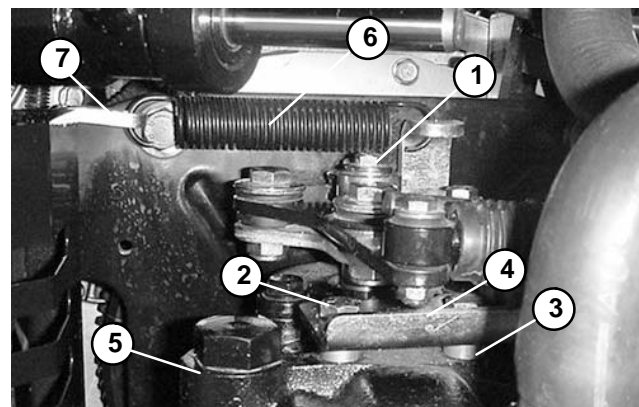

Figure 28
B. Remove cap screw and flat washer securing pump lever and plate to the trunnion shaft (Fig. 28).
C. Remove cap screws and spacers securing the cable support bracket to the pump (Fig. 28).
D. Disconnect extension spring from the spring bracket. Remove traction control mechanism from the pump as a complete unit (Fig. 28).
C. Connect extension spring to the spring bracket while installing traction control mechanism from the pump as a complete unit (Fig. 28).
D. Secure cable support bracket to the pump with cap screws and spacers (Fig. 28).
E. Secure pump lever and plate to the trunnion shaft with cap screw and flat washer (Fig. 28).